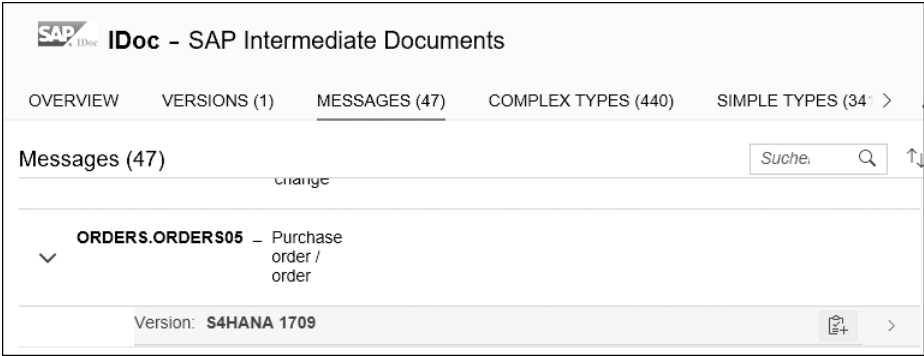

Figure 7.10 Creating a New MIG for ORDERS.ORDERS05
1. To create a MIG based on the **ORDERS.ORDERS05** message, open the **MESSAGES** tab in the **SAP IDoc** type system, and expand the message **ORDERS.ORDERS05**. In the line containing the version information select the **Create a New MIG** icon  to create a new MIG for this message (Figure 7.10).